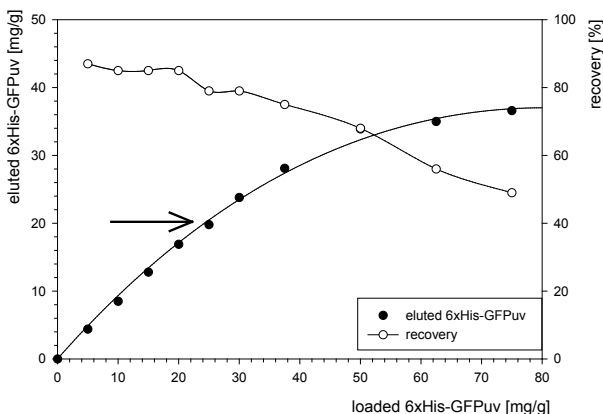
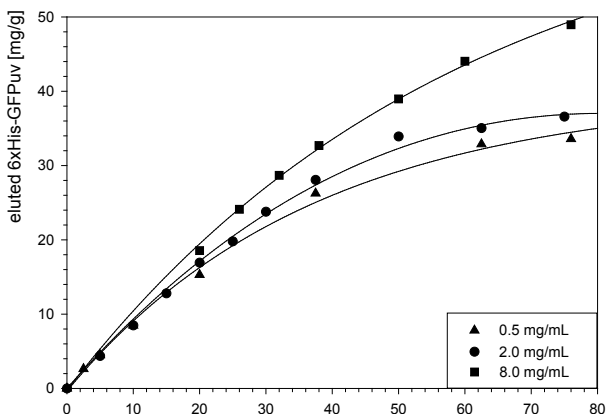

Figure 2 Binding behaviour of 6 x His-GFPuv to Protino® Ni-IDA Resin
Figure 3 Binding behaviour of 6 x His-GFPuv to Protino® Ni-IDA at different concentrations of the polyhistidine-tagged protein in the sample
The binding behaviour of any polyhistidine-tagged protein to Protino® Ni-IDA can be examined by calculating the amount of protein that is eluted as a function of the amount of protein that has been loaded (see Figure 2). Please note that the resulting graph will vary in dependence on characteristics and concentration of the individual His-tag protein. The binding curve can be divided in three stages:
1. Stage of maximum recovery. At this stage the loaded protein is bound to the resin nearly quantitatively and can be eluted nearly quantitatively, too (the binding curve is almost linear, see Figure 2, • eluted His-GFPuv).
Figure 2 shows a plot of the amount of eluted 6 x His-GFPuv against the amount of loaded 6 x His-GFPuv. The binding curve can be divided in three stages:
Under the above mentioned conditions the binding capacity of Protino® Ni-IDA for 6 x His-GFPuv is approximately 20 mg protein per g of resin (see arrow, Figure 2). At this point the protein recovery is > 80 %. Consequently the following amounts of 6 x His-GFPuv have to be loaded: For optimal recovery: load ~ 20 mg protein per 1 g of Protino® Ni-IDA Resin, for maximum yield: load ~ 75 mg protein per 1 g of Protino® Ni-IDA Resin.
Recovery rates and yield can be increased by using samples containing higher concentrated polyhistidine-tagged protein (6 x His-GFPuv). Figure 3 shows that the yield of purified polyhistidine-tagged protein is not only depending on the total amount of target protein loaded on the column (also see Figure 2) but also on its concentration in the lysate. Consequently the concentration of target protein in the sample should be as high as possible.